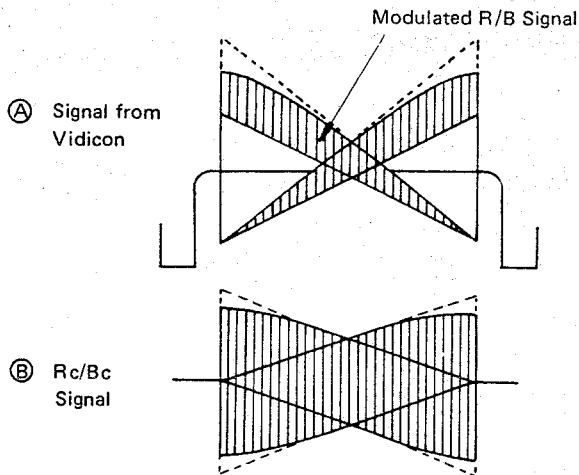

Fig. 61 Vidicon's Gamma Characteristic-2
Therefore, the relatively high level of the modulated R(Rc) and modulated B(Bc) signals (B) are also suppressed. (Fig. 61).